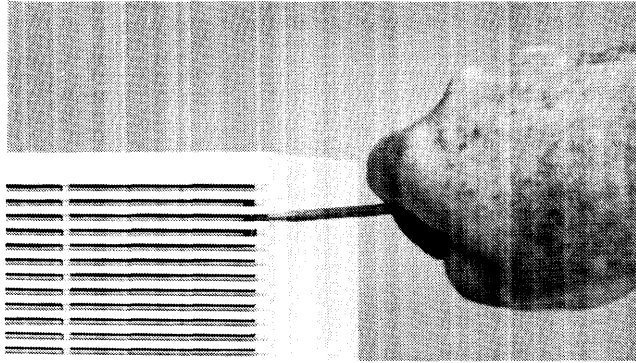

Figure 2-4. Releasing the Front Panel Catches
1. Using a thin blade flat-tip screwdriver, release the front panel catches on the right and left sides by pressing them inward as shown in Figure 2-4.